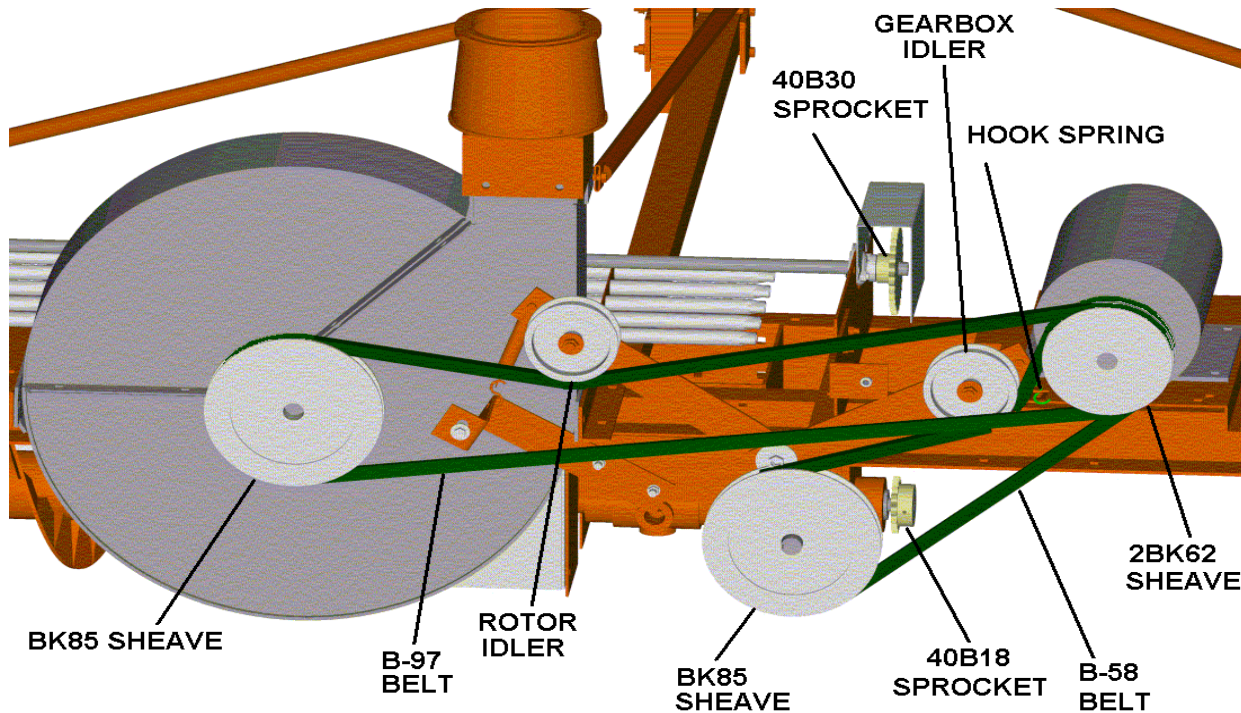

FIGURE 27
1. Mount the motor to the motor mount plate using (4) carriage bolts. Mount a 2BK62 sheave with a H-taper hub on the motor shaft as close to the motor as possible. Mount a BK85 sheave to the auger gearbox shaft with a H 1" taper hub and 1/4" square key. Align this sheave with the inside groove on the motor sheave above. Mount a BK85 with a H 1-1/4" taper hub and 3/16" x 1/4" rectangular key on the rotor shaft. Align this sheave with the outside groove of the motor sheave. See Figure 27.